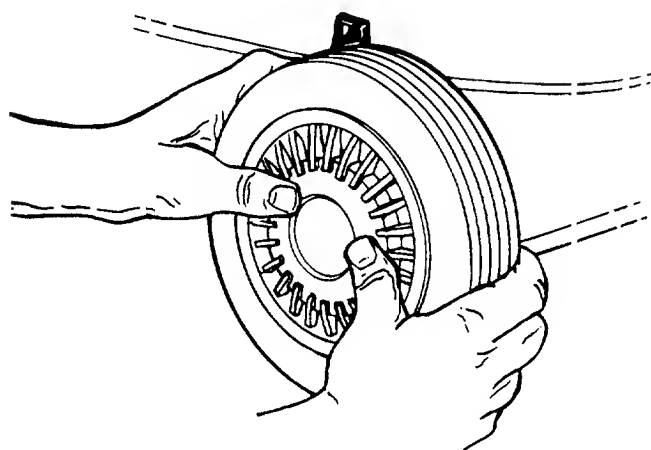

FIGURE 8.—Optional Hub Caps
2. If your mower is equipped with 2" wide tires, place front hub caps in position against the inner hub of the wheel. Press firmly around the center portion of hub cap in a circular motion, similar to installing a lid on a round, plastic container. See figure 8.